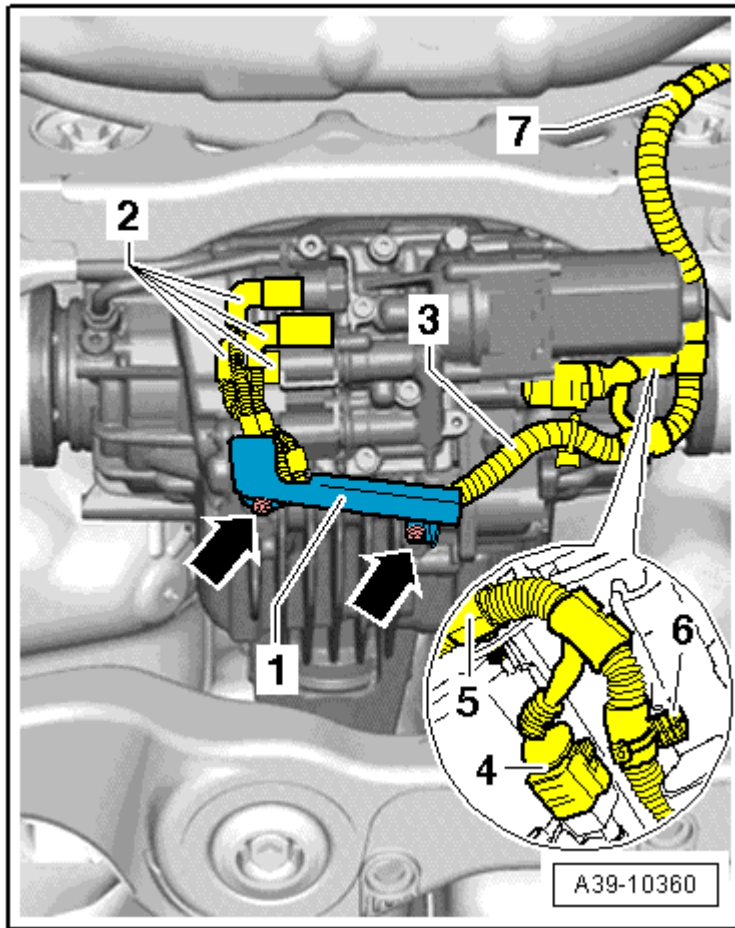

Fig. 94: Rear Final Drive Wiring Harness Bracket
- Remove the wiring harness bracket from the rear final drive if necessary **Fig. 94**.